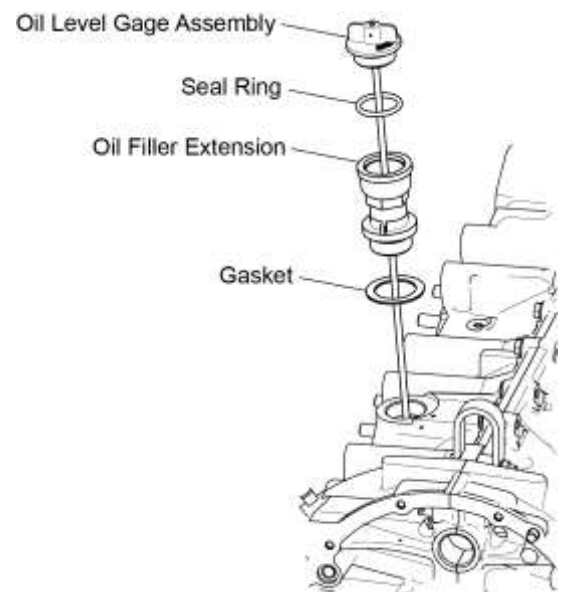

Figure 1
- (1) Pull out the oil level gage assembly (dipstick) from the oil filler extension (Figure 1).
- (2) Wipe all oil from the dipstick end with a clean, lint-free cloth. Do not let any lint or dirt remain on the dipstick or get in the oil filler extension.
- (3) Insert the dipstick fully back into the oil filler extension, threaded all the way down to the oil sump and then remove the dipstick.
- (4) Look at the oil level indication on the dipstick end.
- (5) If the oil level is not sufficient, add the correct oil through the oil filler extension. Refer to the section "Add Oil to the Engine" in this chapter.
- (1) Pull out the oil level gage assembly (dipstick) (Figure 1) from the oil level gage tube.
- (2) Add either new clean ashless dispersant oil or specified oil of the correct viscosity for the ambient temperature (identified in Appendix A in the *TEO-540-C1A Engine Installation and Operation Manual*) to the oil sump through the oil level gage tube.
- (3) Measure the oil level per the “Oil Level Check” procedure in this chapter. Add more oil if necessary until the oil level in the engine is sufficient.
- (4) In the engine logbook, record the amount of oil added to calculate oil consumption.
- (5) Install the oil level gage assembly (dipstick) into the oil filler extension.